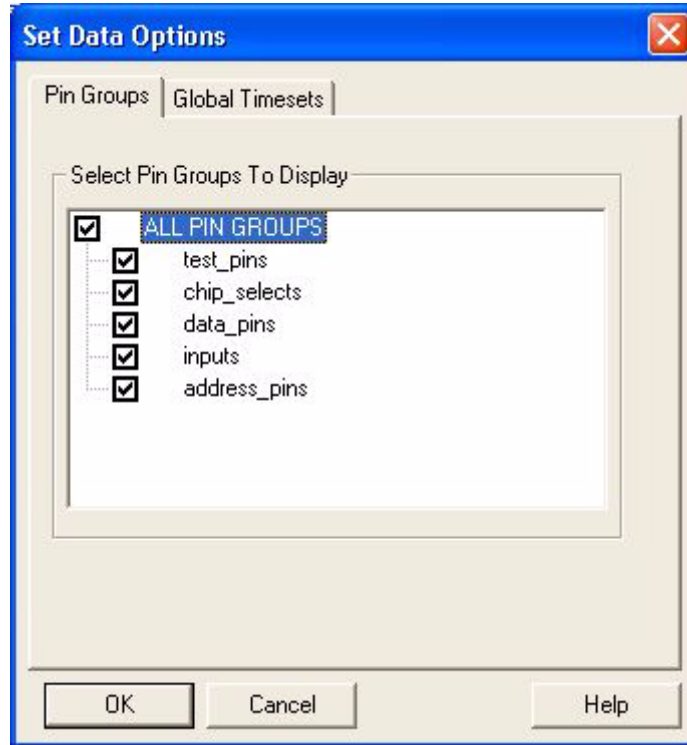

Figure 7-22. Set Options Dialog Box Pin Groups Tab
Displays the Set Data Options dialog box (similar to Figure 7-22) that has the following two tabs:
- Pin Groups tab (Figure 7-22): Lists all pin groups for the current set of vectors that can be selected or de-selected to display and then select the button.